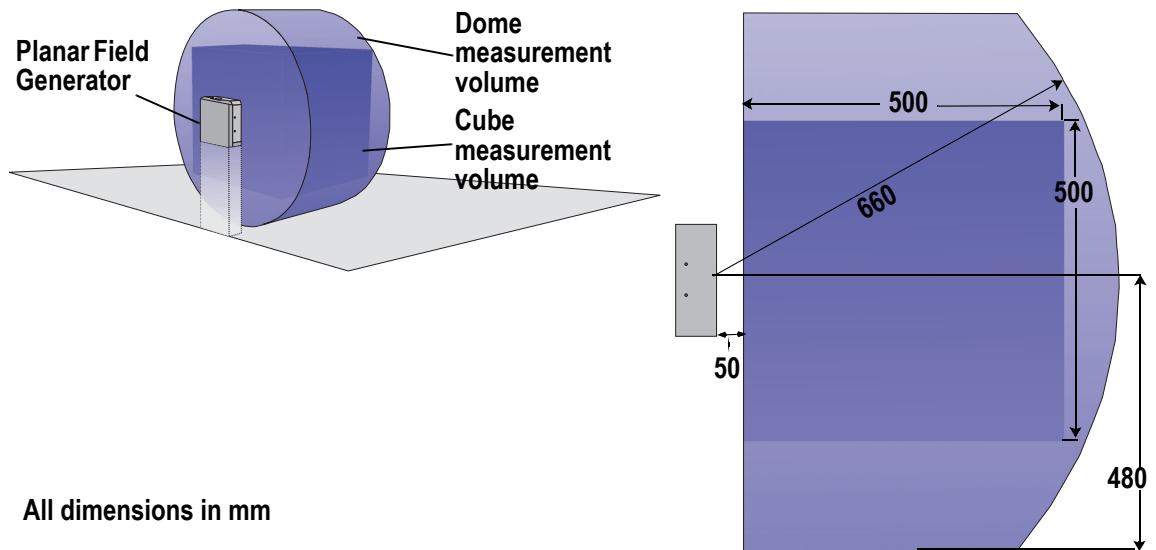

Figure 3-2 Planar Field Generator Measurement Volume
The Planar Field Generator contains a number of large coils that generate known electromagnetic fields as previously described. The measurement volumes are illustrated in Figure 3-2. The volume is projected outwards from the Field Generator's front face, offset by 50 mm from the Field Generator.
4. Orient the Field Generator so that the measurement volume encompasses the area of interest (area where the tools will be tracked; refer to Figure 3-2 on page 16).